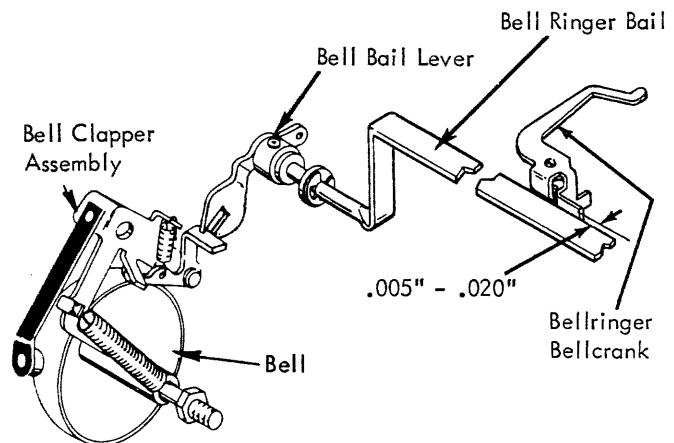

FIGURE 181. Bell Bail Lever (Late Style)
- b. Late - With the carrier positioned away from the right hand margin stop, adjust the bell bail lever located on the left end of the bellringer bail so that when the bottom portion of the lever is allowed to contact the underside of the bell clapper bellcrank lever a clearance of $.005''$ to $.020''$ will exist between the bellringer bail and the bellringer bellcrank (Fig. 181).